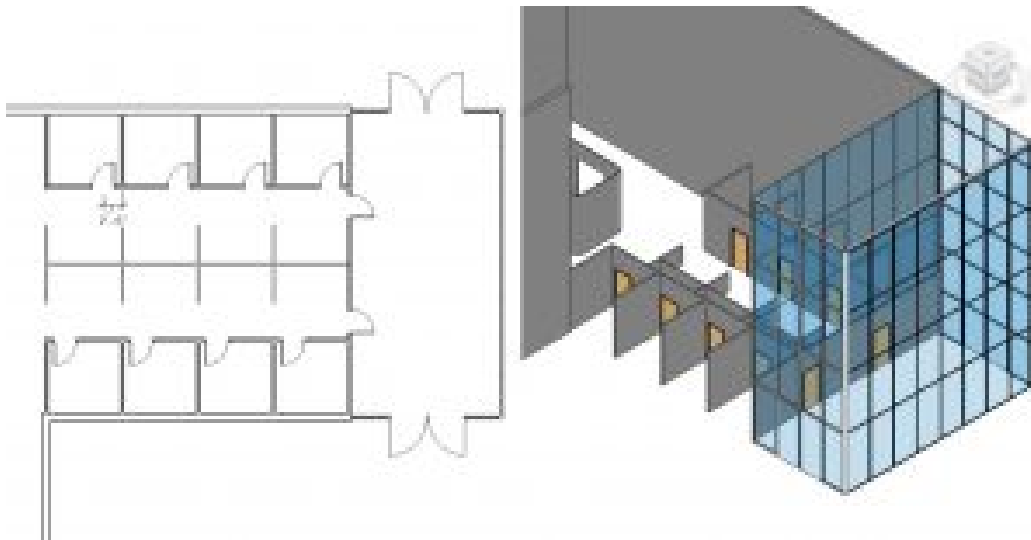

Figure 2.35 Placed doors in plan view and in 3D view
4. Click to place doors as shown in Figure 2.35
5. Select each door and use the witness lines to adjust the placement to 2'6" between the open door and the neighboring wall. See Figure 2.35 for reference